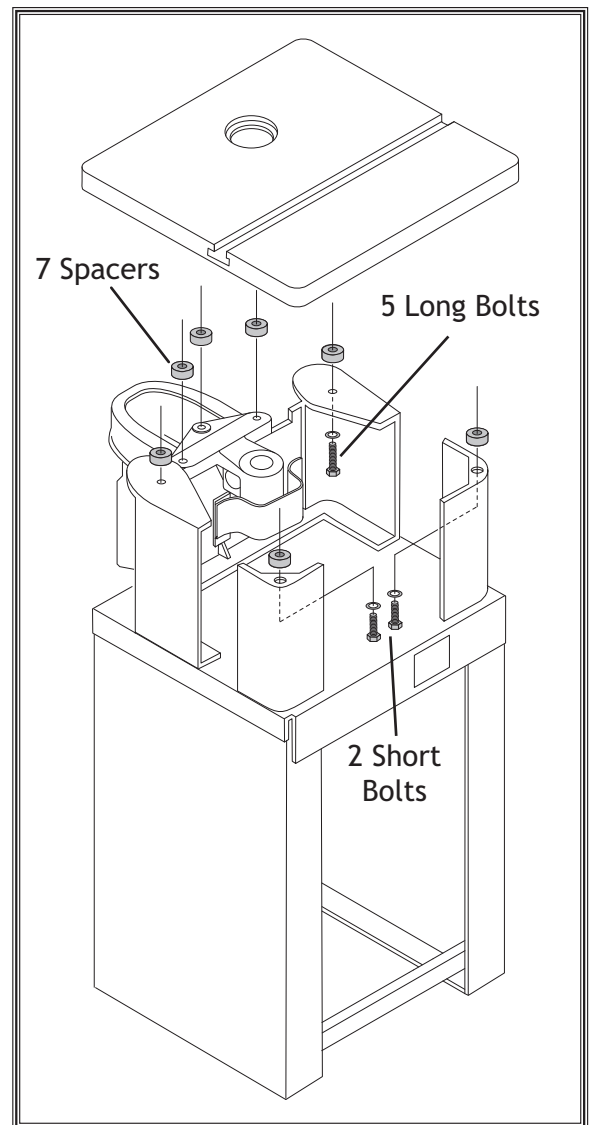

Figure 39. Installing table spacers.
8. Place the table on the spacers and secure it to the shaper with the hex bolts from the router table spacer kit (see **Figure 39**).